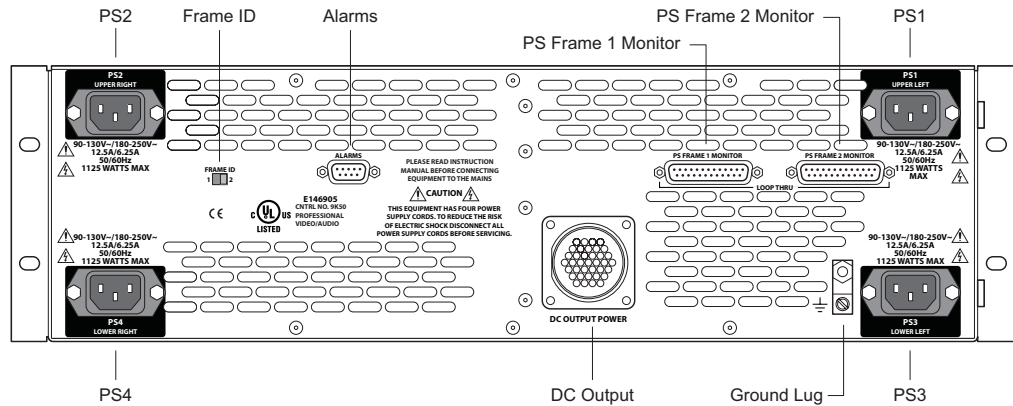

Figure 2-34. Power Supply (Rear View)
- 8 Connect power cords from AC power sources (90–230 VAC, 50–60 Hz) into power supply connections PS 1 through PS 4. (See Figure 2-34.) Connect one power cord for each PS8100 or PS8300 power supply module you will install.